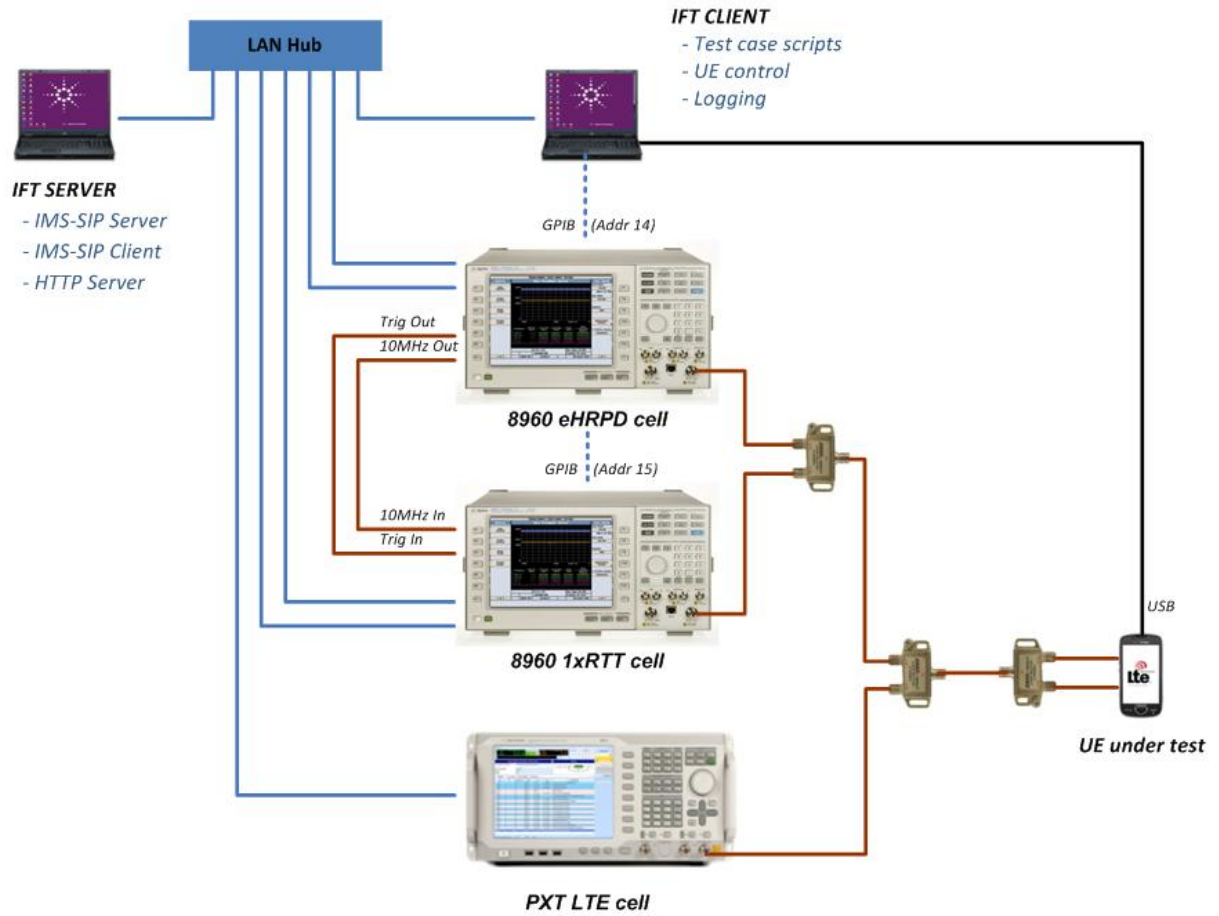

Figure 4-1: System Configuration (Also shown in Chapter 2)
1. Connect all components as shown in Figure 4-1, above, ensuring all wireless test sets are loaded with the appropriate software described in Table 4-1 above.